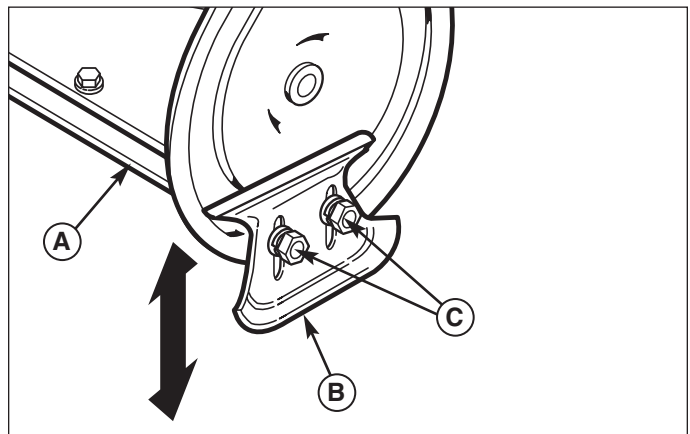

Figure 8. Skid Shoe Adjustment
The height of the scraper bar is controlled by raising or lowering the Skid Shoes (See Figure 8).
4. Loosen screw (B, Figure 8) from belt cover (A). Remove belt cover (A).